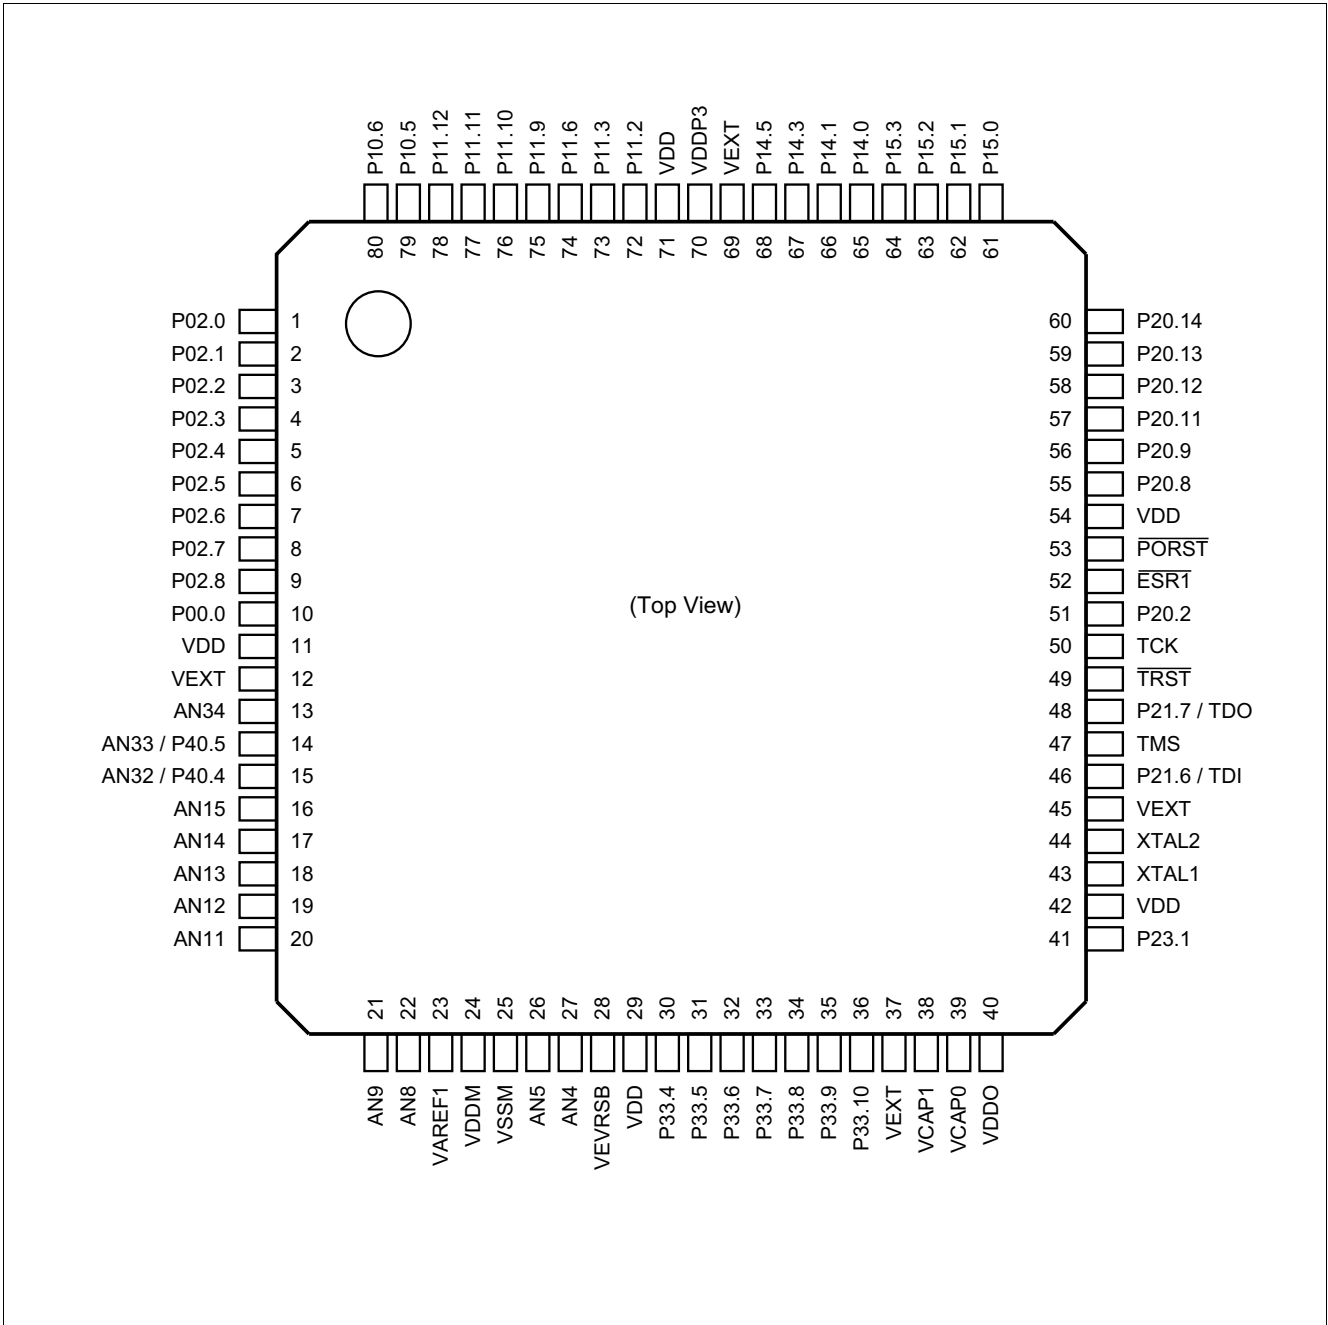

Figure 2-5 TC33x/TC32x Logic Symbol for the package variant TQFP-80 for feature package L and LP
- TQFP-80 for feature package L and LP (Figure 2-5)